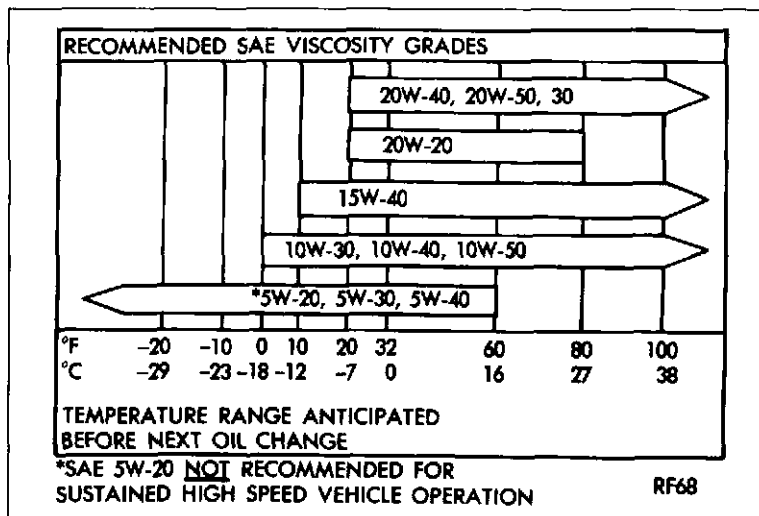

Fig. 7—Recommended Viscosity Grades
2. They should have the proper SAE grade number for the expected temperature range (see chart, Fig. 7).
Low viscosity oils make engine starting easier in cold weather. As shown in the chart (Fig. 7), oils of the SAE 5W-20, 5W-30, or 5W-40 grade number are preferred when minimum temperatures consistently fall below 10°F (-12°C).